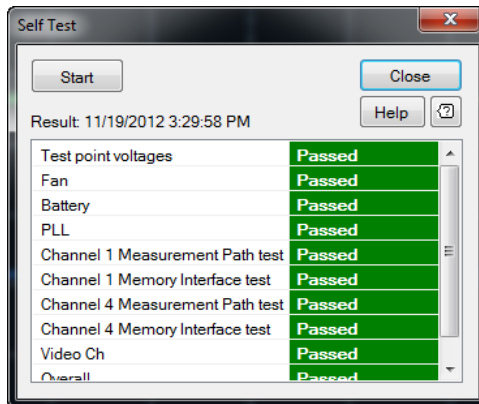

Figure 3-6 Self-test result in the Self Test dialog
- 4 The self-test result is displayed in the Self Test dialog as shown in Figure 3-6.